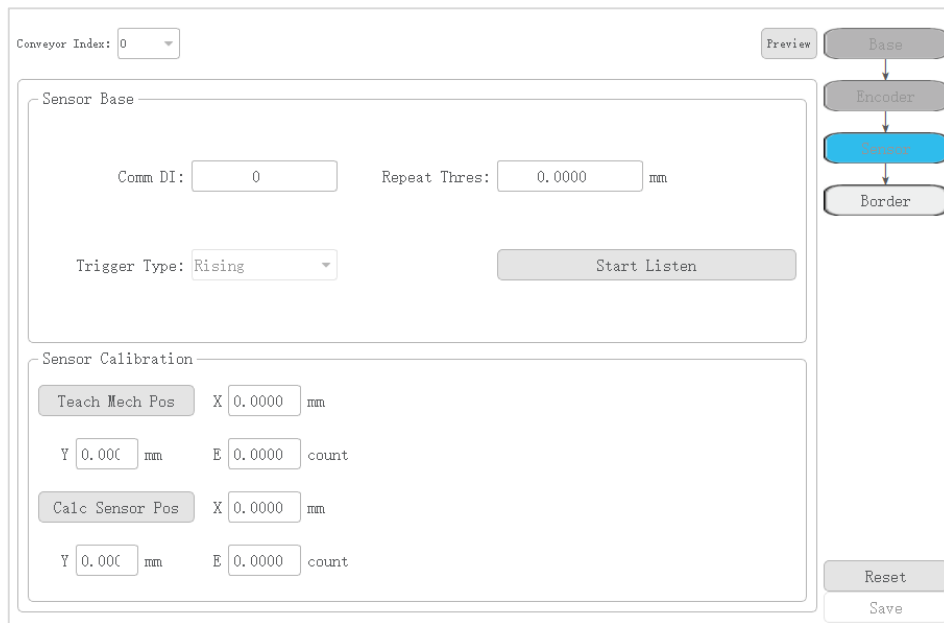

Figure 5.13 Sensor calibration page
**Step 4** (Optional) Click **Sensor** to calibrate the sensor, as shown in Figure 5.13.